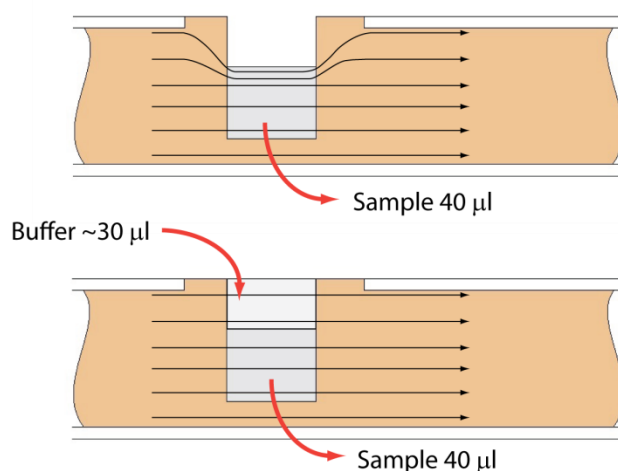

Figure 11.1. An illustration of the electrophoretic effect on a DNA sample when a sample well is not completely filled.
Proper sample loading is critical for best performance of Pippin Prep cassettes. For maximum reproducibility and accuracy, the sample should travel through the central section of the gel column, and should be bounded on all four sides by uniformly conductive media – either gel or electrophoresis buffer. The goal of the loading procedure is to produce this geometry in the sample loading well, as illustrated in the bottom section of **Figure 11.1**. Properly prepared samples will be 40 μ l in total volume consisting of 30 μ l of DNA mixed with 10 μ l of Pippin Prep loading solution. The loading solution contains concentrated Ficoll as a densifying agent (see following chapter on Sample Preparation for details), and therefore the samples will sink and form a high density layer beneath the electrophoresis buffer when pipetted slowly into the sample wells. If there is insufficient conductive buffer over the sample, the electrophoretic forces lines will curve upward as the sample exits the well (see **Figure 11.1**, upper section), and the sample will be drawn to the top of the cassette where it can travel out of the gel into the gap between the gel column and the plastic top of the channel. Sample moving in this gap will travel at a different rate than the sample inside the gel column, and will lead to elution of undesired size fractions in the eluted material. In such cases, the contaminating DNA will usually (but not always) be higher in molecular weight than the selected DNA.
2. **Remove 40 μ l of buffer from the first sample well, and load 40 μ l of sample (or marker) into that well.** Take care not to pierce the agarose with the pipette tip. There is gel on all sides and bottom of the sample well. In addition, there is an agarose “chimney” surrounding the top of the sample well that protrudes up through the cassette cover (see **Figure 11.1**, previous page). When removing buffer, some users find it useful to immerse the pipette tip just below the surface of the buffer and follow the liquid level down with the tip as the buffer is removed. When buffer removal is completed, there will be ~30 μ l of buffer left in the well. When adding sample, place tip of pipette just below the surface of the buffer, and follow the liquid level up with the tip as the well fills. Don’t be concerned if the sample well slightly overfills. The density of the sample will allow it to sink before it can flow out of the well.